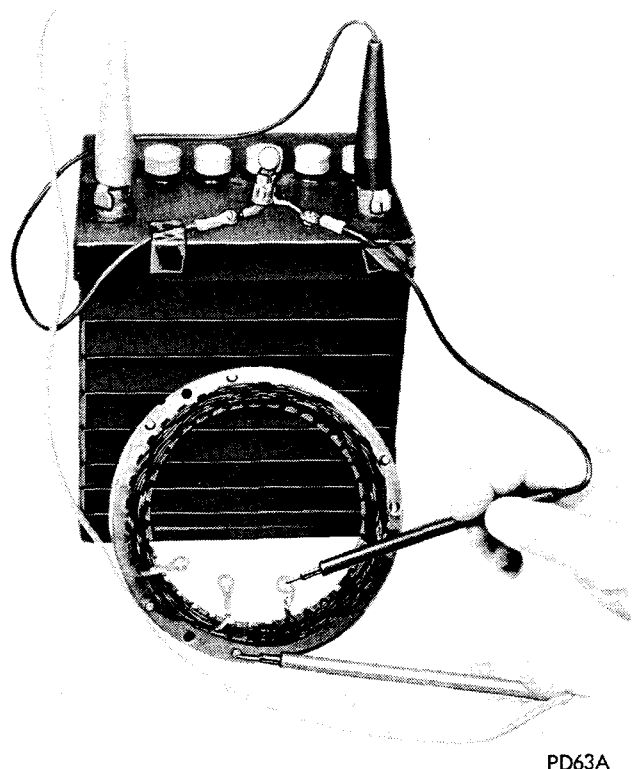

Fig. 21—Testing Stator for Ground
- (1) Press test probe firmly onto any pin on the stator frame. Be sure the varnish has been removed so that the pin is bare (Fig. 21).
- (2) Press test probe firmly to each of the three phase (stator) lead terminals one at a time. If the lamp lights, the stator lead is "grounded."
- (3) Press test probe firmly on one phase terminal lead and contact firmly each of the other two stator leads. Test lamp should light when prod contacts each of the terminals. If lamp does not light, stator winding is "open".
- (4) Install new stator if stator tested is "grounded" or "open".